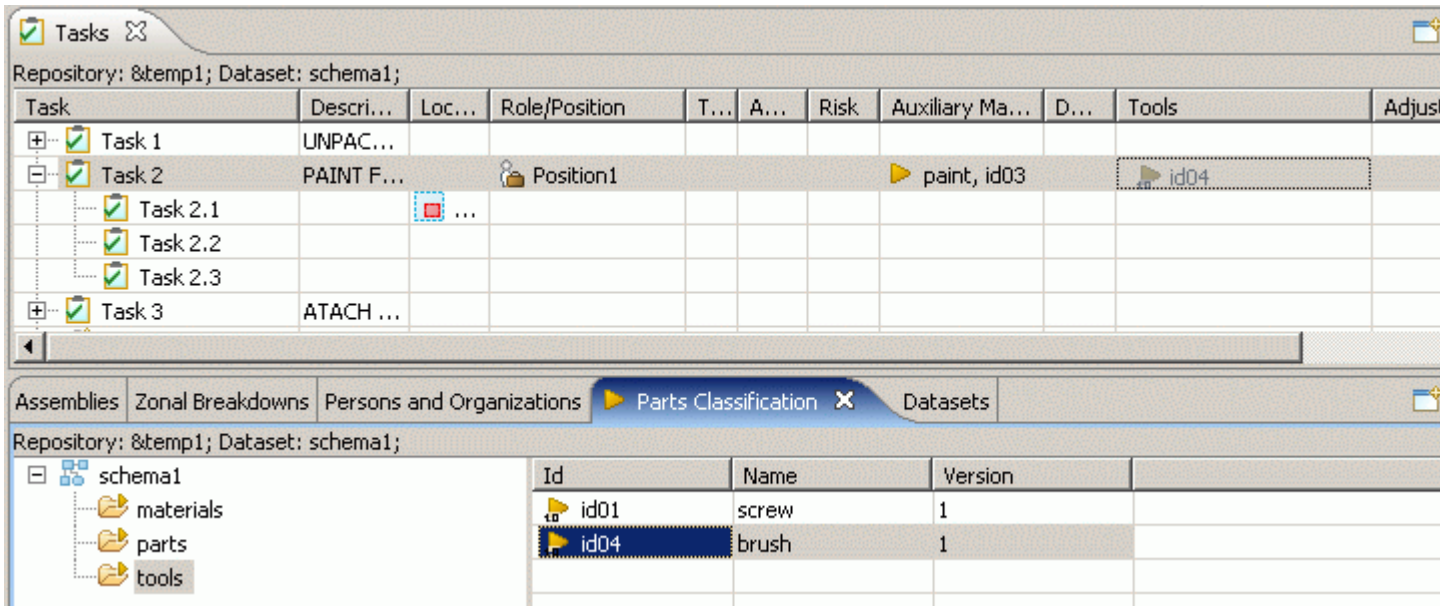

Figure 2. Selected part dragged onto task
- Drag the selected object onto the **Tools** column of an applicable  task in the  **Tasks** window. A transparent icon and name of the selected object appears while dragging (see Figure 2).